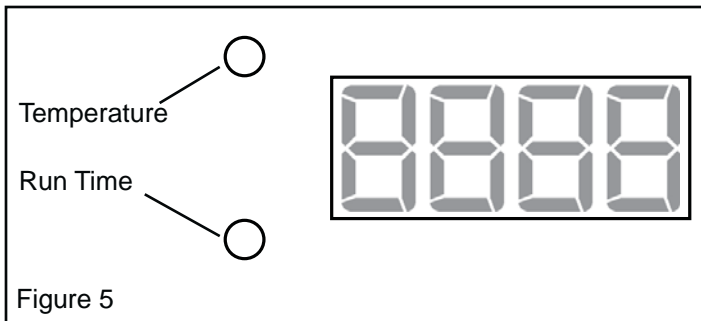

Figure 5
- The digital display will show the room temperature and running time of the heater. (See figure 5)